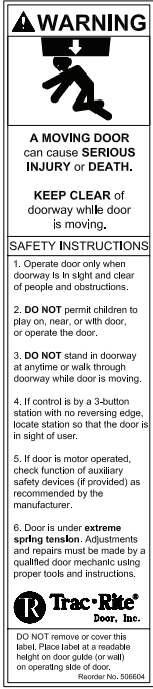

Figure 15.
9.3 Attach guide warning label (shown in Figure 15) to the guide at eye level.
9.4 Attach tension adjustment warning label (shown in Figure 15) either on the door bracket with the tensioner or to wall at eye level.